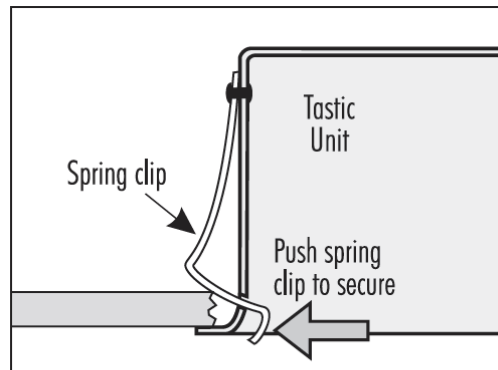

Fig. 12
3. To secure the unit in position, push lower ends of springs apart (Fig 12.). Ceiling board
7. To secure the unit in position, push lower ends of springs apart (Fig 12.). Ceiling board thickness should be adjusted to enable springs to be fitted without excessive force.